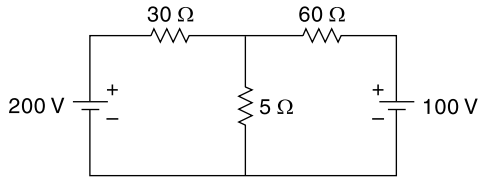

Fig. 4.102 Circuit of Ex. 4.74
4.74 Find current through $5\ \Omega$ resistor in the circuit of Fig 4.102 using Norton's theorem.